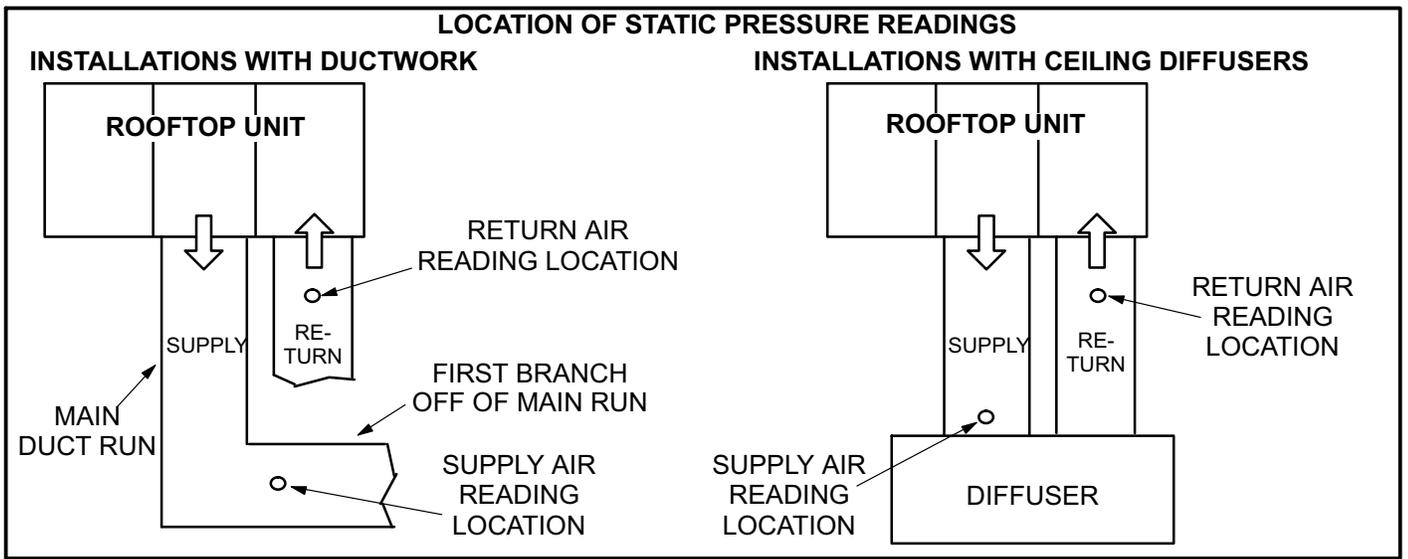

FIGURE 9
- 2- With all access panels in place, measure static pressure external to unit (from supply to return). Pressure tap locations should be approximately one foot from openings. See figure 9.